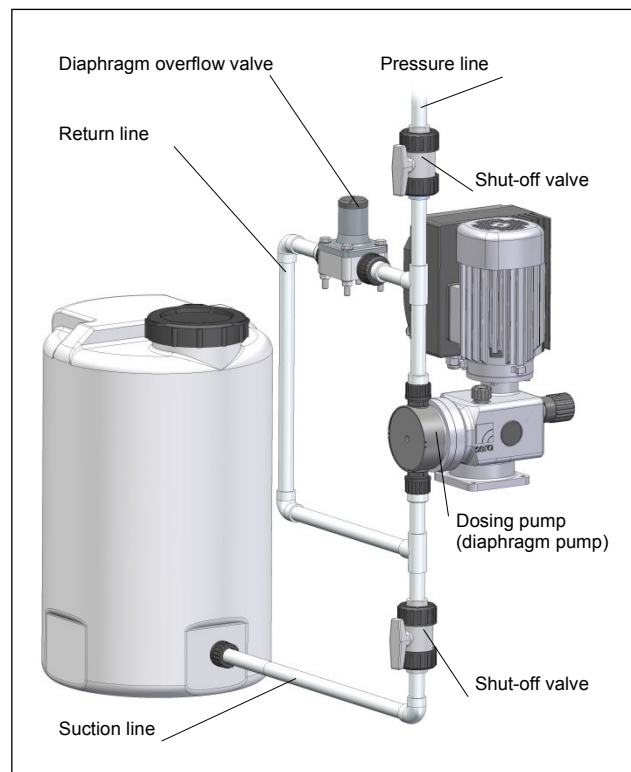

Fig. 25 System with (external) overflow valve
- or connect the overflow line directly to the pump suction line, but only if there is no check valve inside the suction line (e.g. foot valve of a suction lance) (please see Fig. 25 / 26).